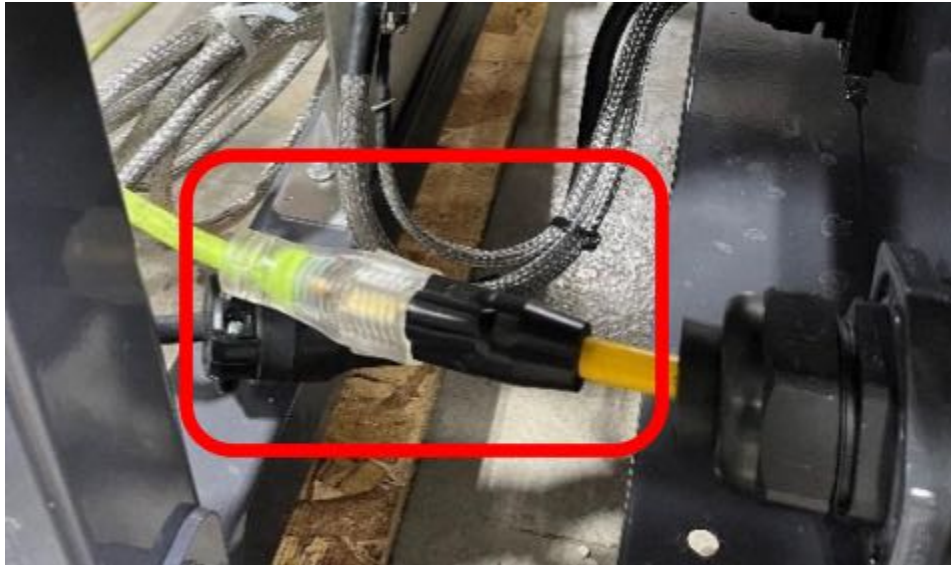

Figure 16) Disconnecting the AC Power Cable
6. If your system is powered by an AC power source, unplug the power cord from the side of the system. See Figure 16. Once the system is powered off, repeat step 5 again to clear the water out of the fail-safe solenoid..